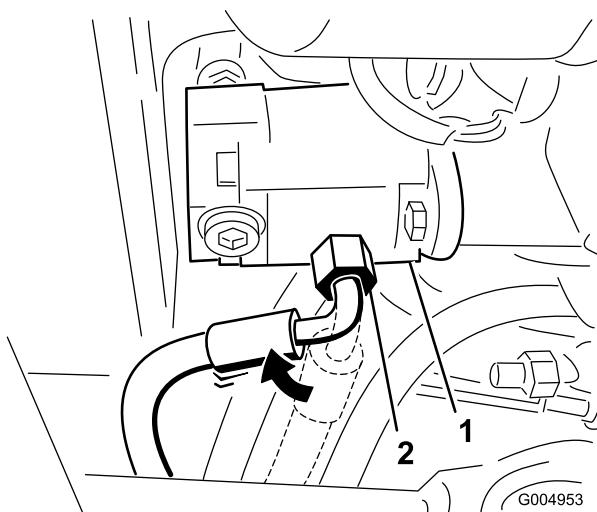

Figure 43
3. Loosen the pressure hose fitting at the pump and rotate the fitting 45 degrees toward the front of the machine (Figure 43).
Note: Figure 43 is shown as viewed from under the traction unit.